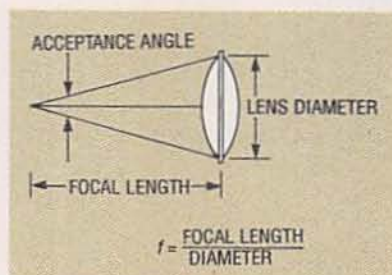

FIG. 3—THE *f* NUMBER or lens speed is the ratio of the focal length to the diameter. You can think of this as an optical acceptance angle.
**f number or lens speed.** In lenses, the ratio of the focal length to the diameter is called the "f" number ( $f = fl/d$ ). The smaller the number, the "faster" and more expensive the lens. It is convenient to think of this as an optical "acceptance" angle (see Fig. 3). This will be important in choosing the transmitter's collimating lens. In cameras, where the focal length is fixed, a lens with a larger diameter than another lens has a smaller "f" number, and is said to be faster. That's because the larger lens gathers more light and the shutter can be set to a faster speed than the smaller lens. Table 1 shows f numbers vs. acceptance angles.